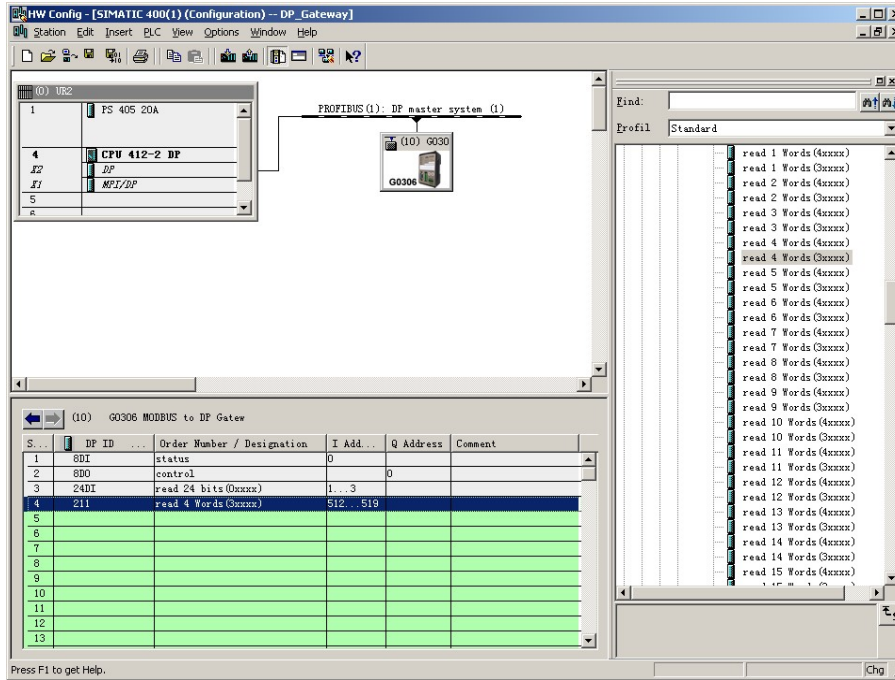

Figure 19 Add“read 4 Words(3xxxx)”module
a) Add the "read 4 Words(3xxxx)" module, as shown in Figure 19: